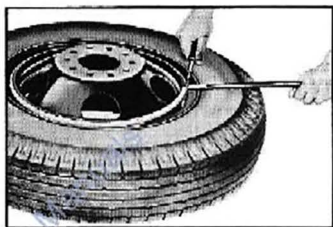
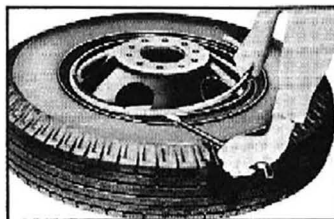

Fig. 77—Raising End of Clamp Ring
Fig. 78—Removing Tire Clamp Ring
3. Starting at the split in the clamp ring, raise its end out of the rim gutter using a screwdriver and the tire iron (fig. 77). Then remove the clamp ring by prying it out of the gutter with the tire iron, moving progressively around the rim (fig. 78).